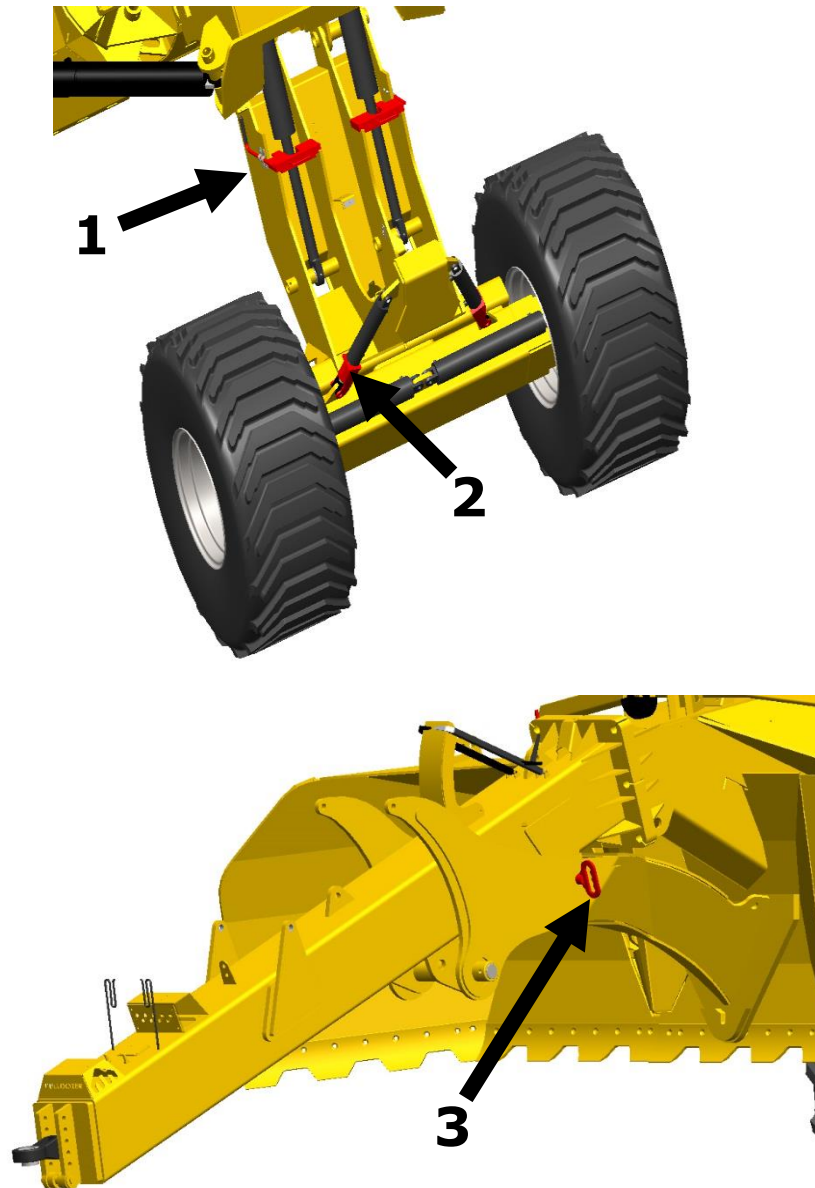

Figure 1: Shows the safety locks marked by arrows
When storing the 1850 Pulldozer Transformer make sure and apply the tilt cylinder safety locks, (2) in figure 1, and trencher safety lock (if equipped), (3) in figure 1. Put wood blocks underneath the blades so it doesn't sit in the ground and rust the blades. Apply grease to the wing hydraulic cylinder (6" x 32" x 4") shafts to prevent shafts from rusting when not in use for a long period of time.